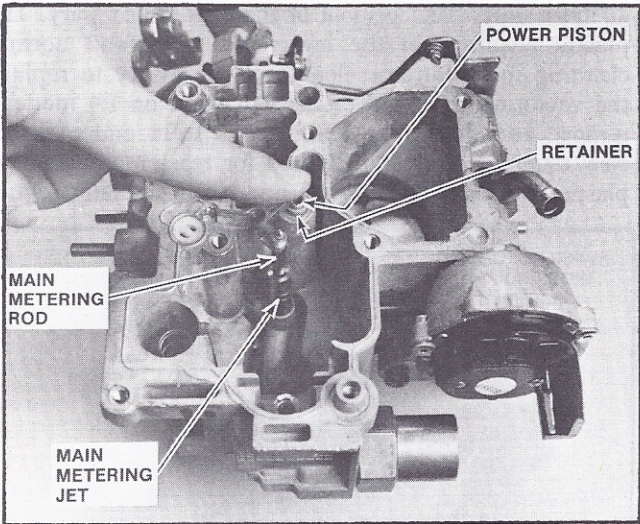

FIGURE 23 REMOVING POWER PISTON (L4 SHOWN)
6. Remove power piston and metering rod assembly by depressing piston stem and allowing it to snap free (Figure 23).